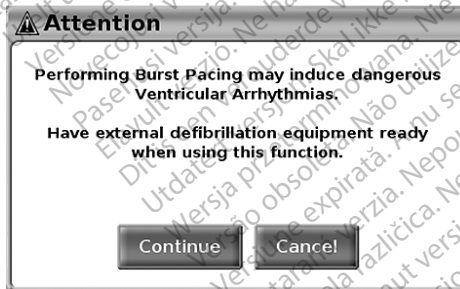

Figure 20. PSA Burst Pacing Warning message
4. A warning displays indicating burst pacing will be activated (Figure 20 on page 26).